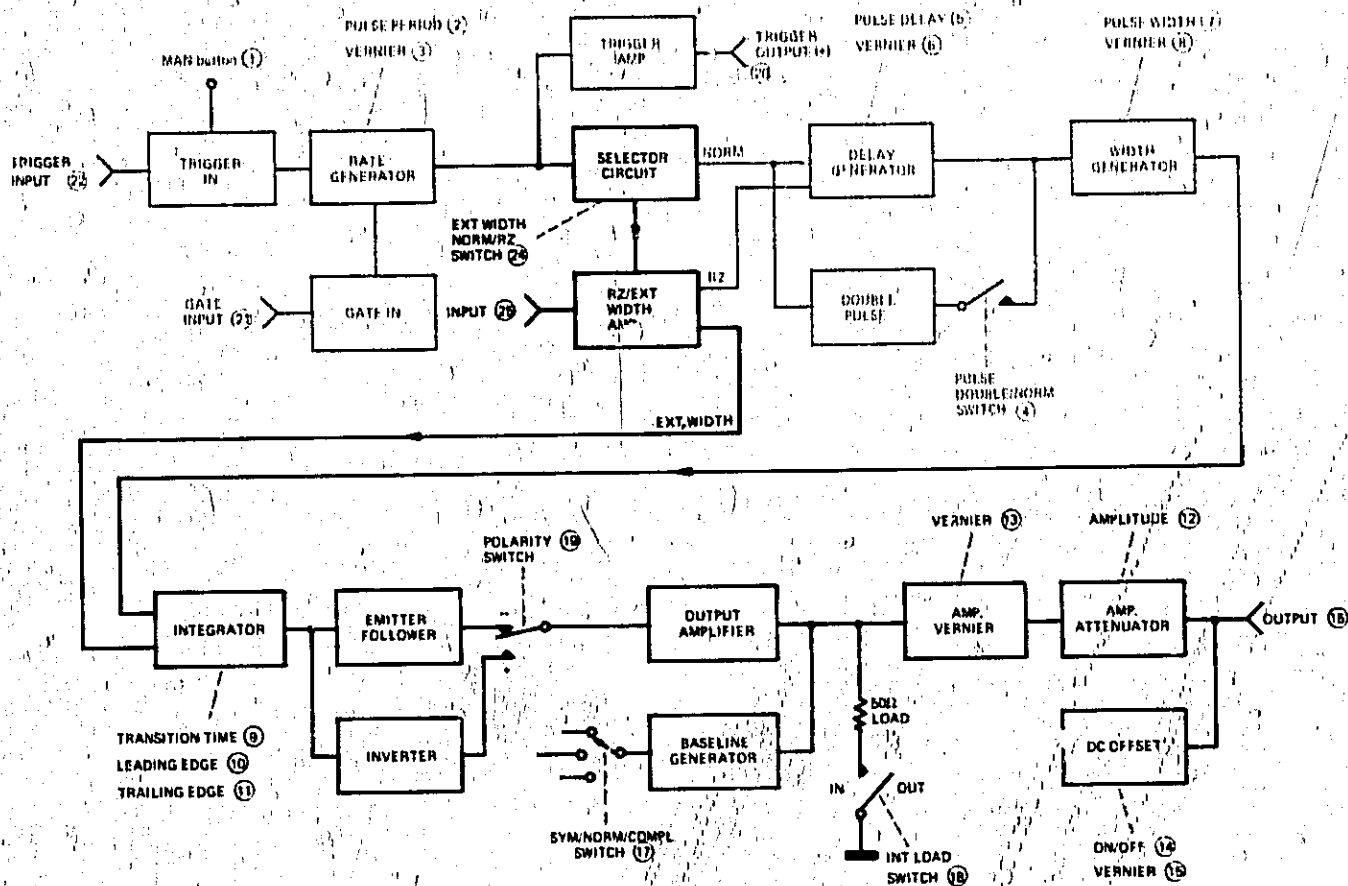

Figure 3-22. External width mode - block diagram
3-51 In this mode, external pulses, applied to the INPUT connector (25) on the rear panel, trigger the transition time integrator (see figure 3-22) and cause the output amplifiers to change state at the threshold level of the input signal. Thus the pulse output is a
3-52 The circuits and controls involved in external width mode are shown in Figure 3-22.